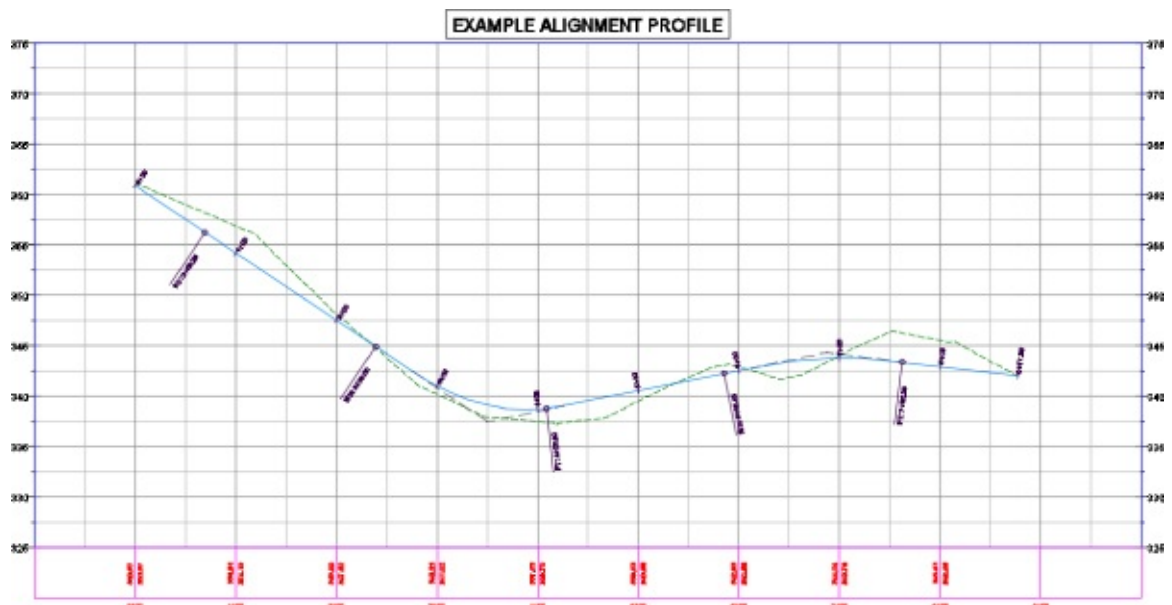

Figure 18.42 Labels applied to major stations and alignment geometry points
10. Click the Apply button, and then drag the dialog out of the way to view the changes to the profile (see Figure 18.42).